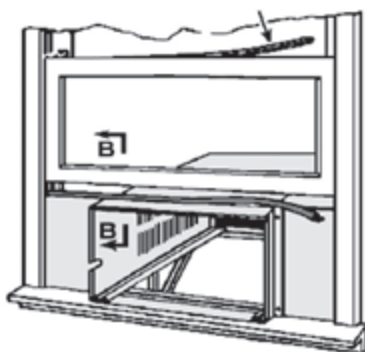

Figure C.5.8 (FOAM WINDOW SEAL GASKET (ITEM #12))
Step 10. INSTALL WINDOW SEALING GASKETS: Measure and cut the dark foam window seal gasket (Item#12) and install it between the upper glass panel and the top part of the lower sash (See Figure C.5.8).